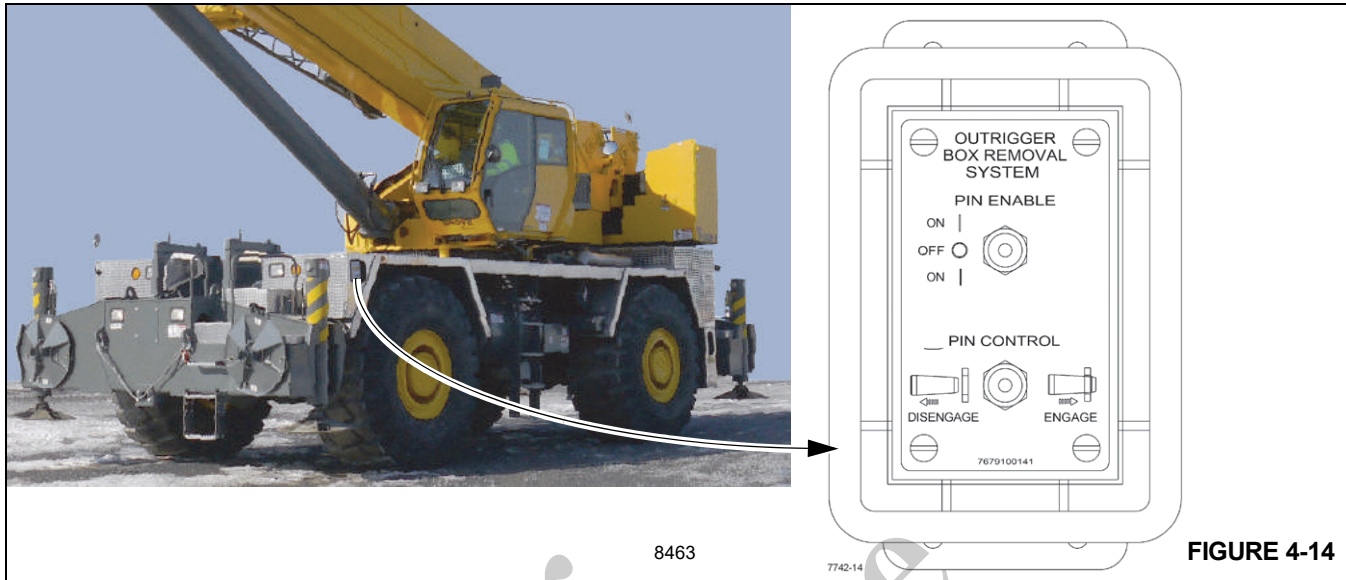

FIGURE 4-14
3. Use the remote mounted pinning cylinder control box (Figure 4-14) located on either the left front or the right rear side of the carrier and perform the following:
6. Use the remote mounted pin control box (Figure 4-14) located on either the left front or the right rear side of the carrier and perform the following:
- b. Position and hold the PIN CONTROL switch to the ENGAGE position (Figure 4-14).